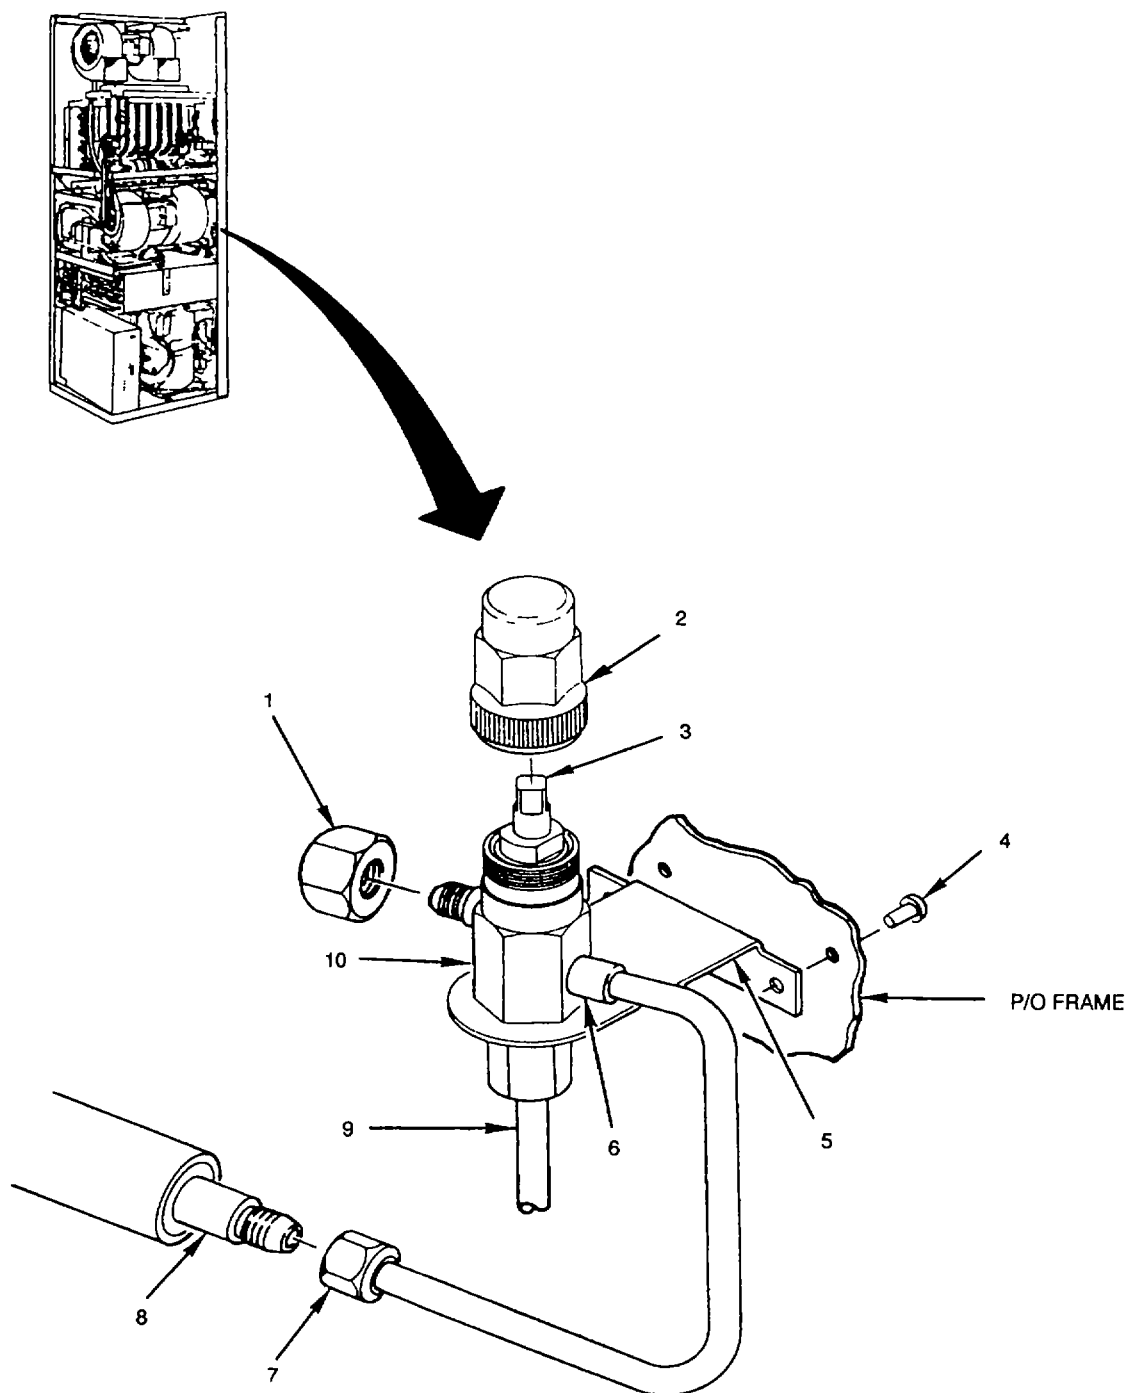

Figure 5-19. Damper Actuator Service Valve (V1)
- a. Inspect for evidence of leaks, damaged lines and loose or missing mounting hardware (see fig 5-19).